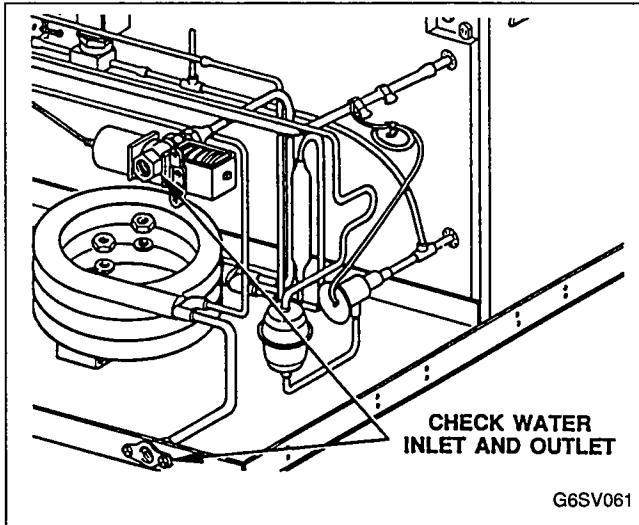

FIGURE 54. CONDENSER LEAK CHECK POINTS
7. Check condenser water inlet and outlet with electronic leak detector. If a leak is detected, replace condenser. See Figure 54.